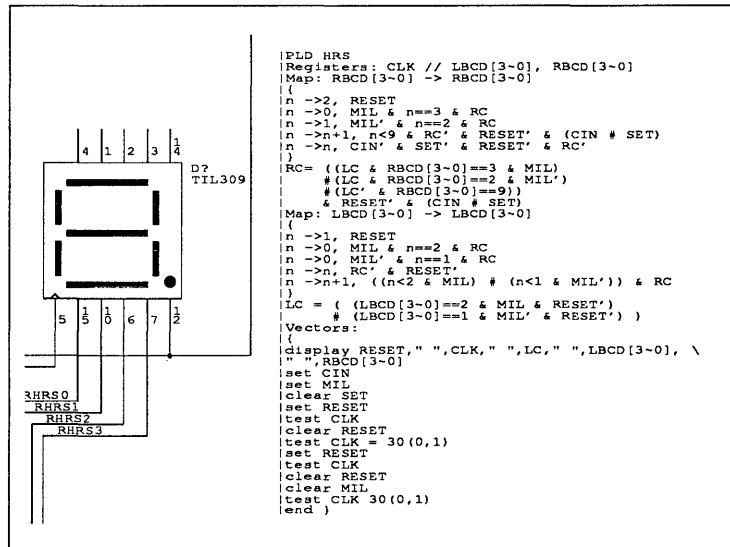

Figure 1-20. Programmable logic device.
*Example* The next example shows how these key fields are used by **Extract PLD**. Figure 1-20 shows part of a design with a PLD.